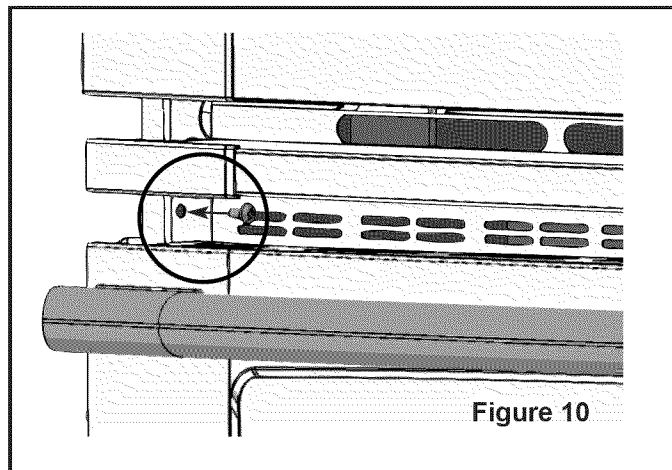

Figure 10
- A. The mounting holes in the side trims may be used as a template to locate the appliance mounting screw holes (see Figure 10).